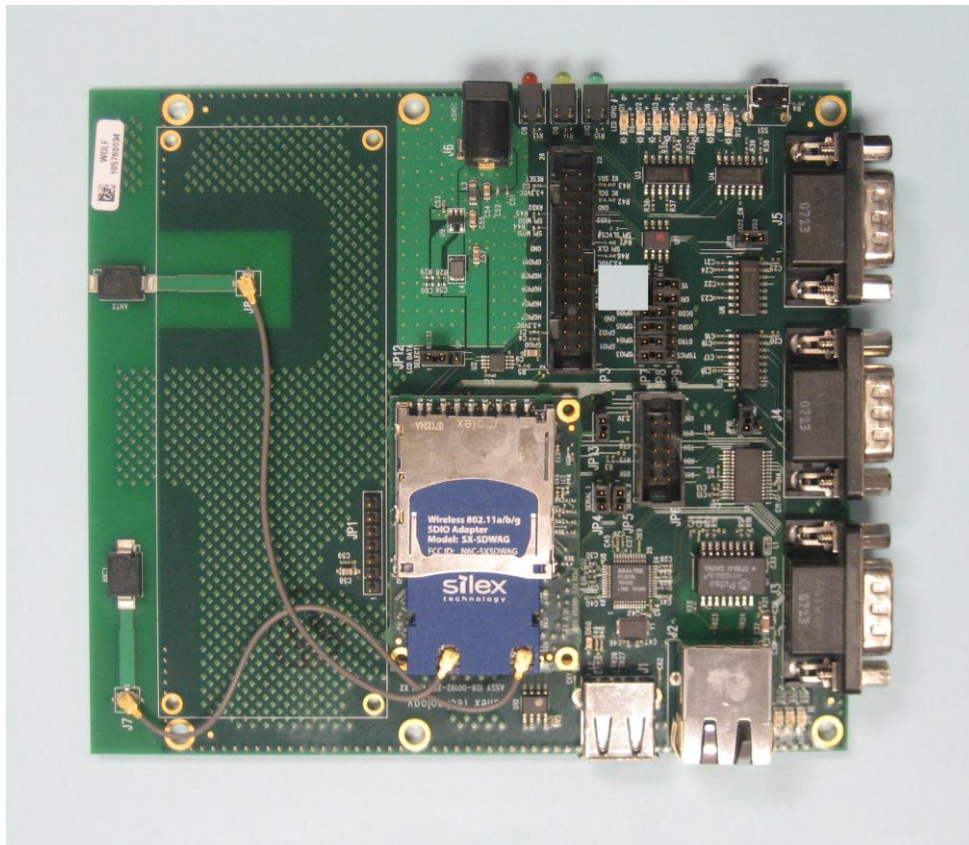
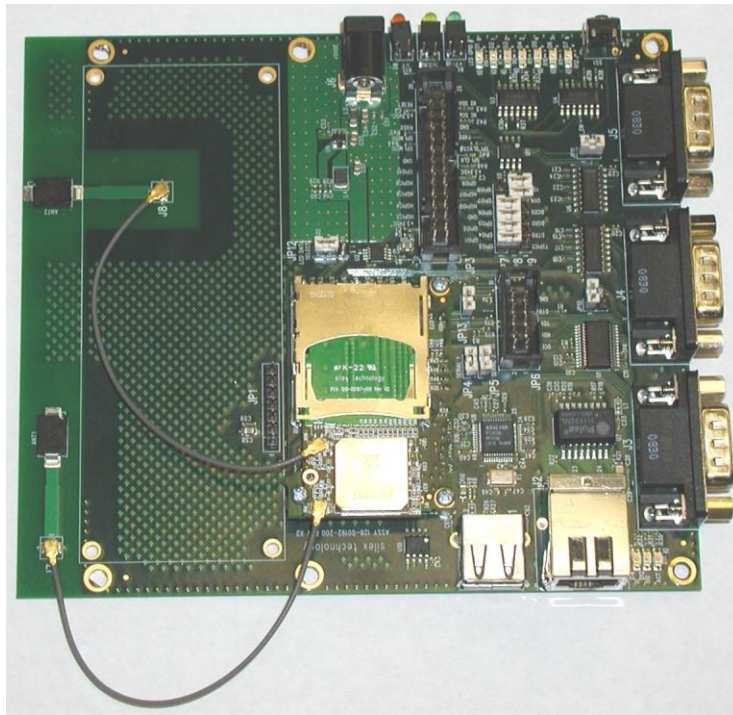

Figure 3 Installing SX-560-1701 Module in Evaluation Daughtercard
Figure 4 Installing SX-560-2701 Module in Evaluation Daughtercard
The SX-560-6900 Evaluation Daughtercard is designed to help you in the development of the necessary hardware and software required to use the SX-560 module. It includes I/O connectors, cables, and power supply in an easy-to-use package. The SX-560-1701 Module is installed in the Evaluation Daughtercard as shown in Figure 3. The SX-560-2701 module is installed as shown in Figure 4
2. The Evaluation Daughtercard includes both on-board bead antennas and external antennas. Use the included U.FL to U.FL cables with the bead antennas or the U.FL to RP-SMA cables with the external antennas. Plug the main antenna cable into the Main Antenna Connector on the card (see Figure 3). Plug the auxiliary antenna cable into the Auxiliary Antenna Connector (the auxiliary antenna improves radio reception, but is not required for operation).
3. If you are using the on-board bead antennas, connect the other end of the antenna cable(s) into either of the built-in bead antenna connectors (J7 and J8) as shown in figure 3. If you are using the external antennas, connect the RP-SMA end of the antenna cable(s) to the external antenna(s).
2. The Evaluation Daughtercard includes on-board chip antennas. Use the included U.FL to U.FL cables. Plug the main antenna cable into the Primary Antenna Connector on the card (see Figure 3). Plug the auxiliary antenna cable into the Auxiliary Antenna Connector (the auxiliary antenna improves radio reception, but is not required for operation).
3. If you are using the on-board chip antennas, connect the other end of the antenna cable(s) into either of the built-in chip antenna connectors (J7 and J8) as shown in figure 3.